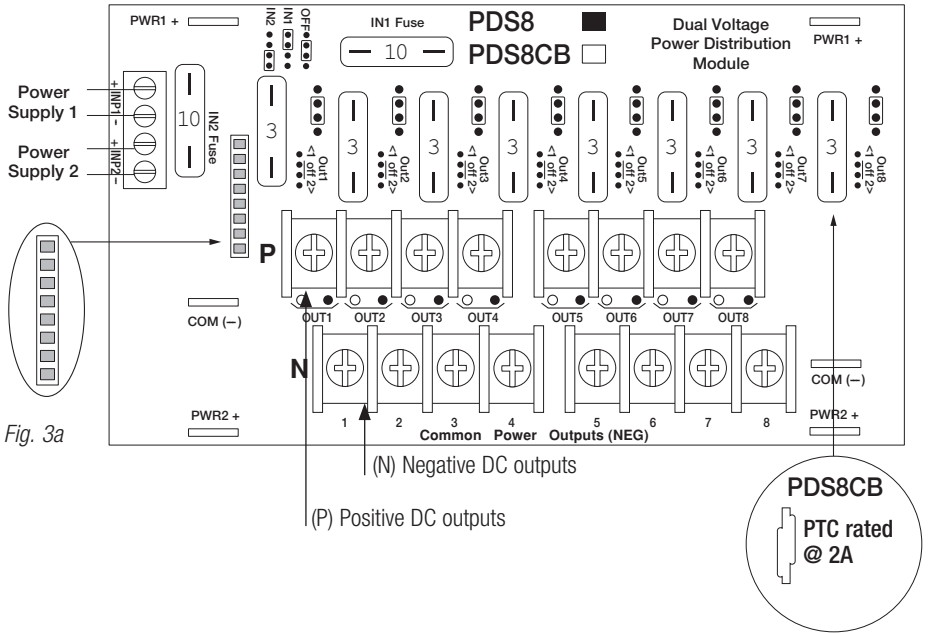

Fig. 3a
4. Align 8-pin male connector with female receptacle of PDS8/PDS8CB, then mount (Fig. 2, pg. 2, Fig. 3a, pg. 4).